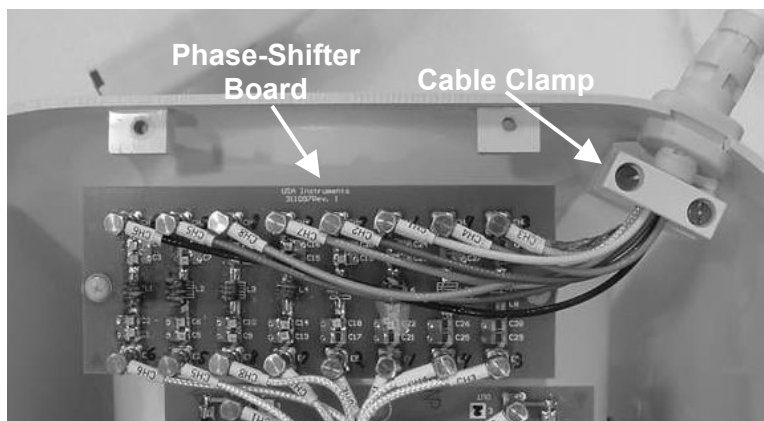

Figure 20: Fixing the cable assembly on the phase-shifter board.
Step 5 – Fix a new cable assembly on the CTL coil and reattach the cable clamp with two screws. Connect all eight SMB plugs to the corresponding receptacles on the phase-shifter board (see *Figure 20*).